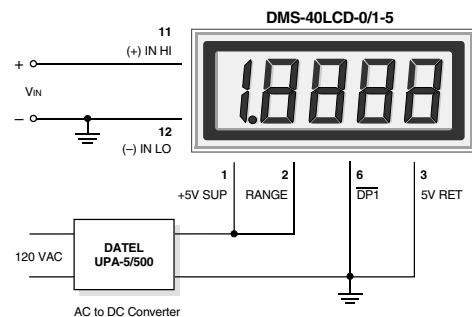

Figure 2. Single-Ended Input Configuration (5V-Powered Models)
- Single-Ended Input Configurations:** True single-ended measurements can only be made with 5V-powered meters. The circuit of Figure 2 avoids problems normally associated with ground loop currents. Separate ground runs should be used for 5V RETURN (pin 3) and (-) INPUT LO (pin 12).